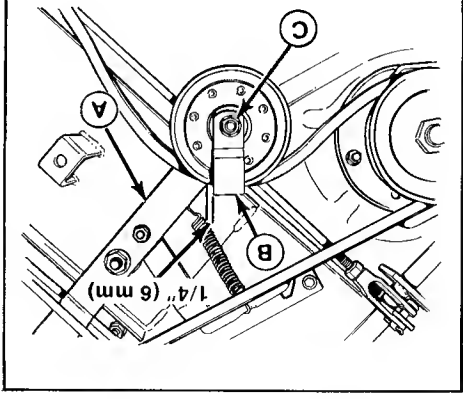

Figure 30. Idler Pulley Belt Guide
The idler pulley belt guide is correctly adjusted when its edge is 1/4 inch (6 mm) from the rear edge of the idler arm (figure 30). If not, loosen the nut (C) and move the belt guide. Tighten the nut and recheck the measurement.